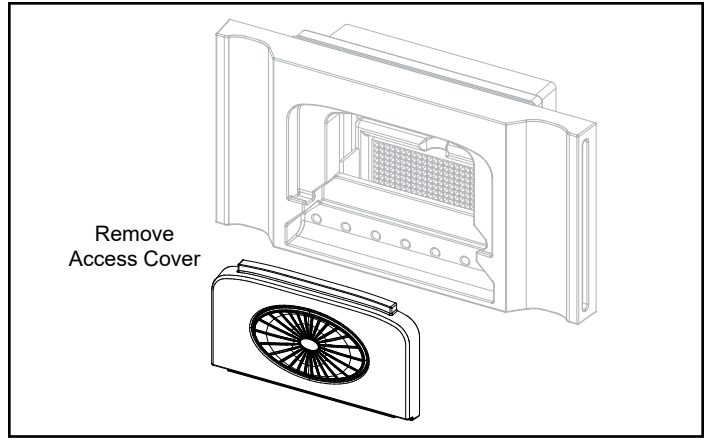

Figure 5.7 - Remove access cover.
2. Remove the access cover by pulling straight up and out, Figure 5.7.